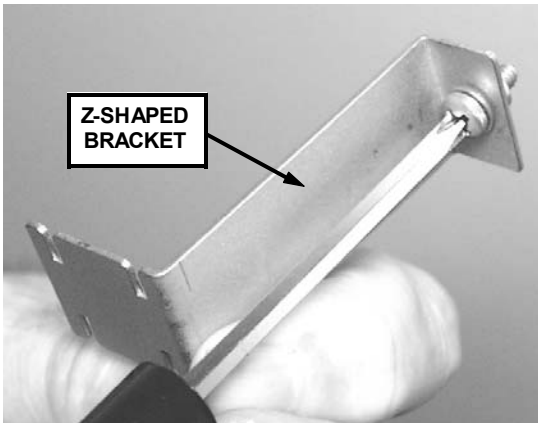
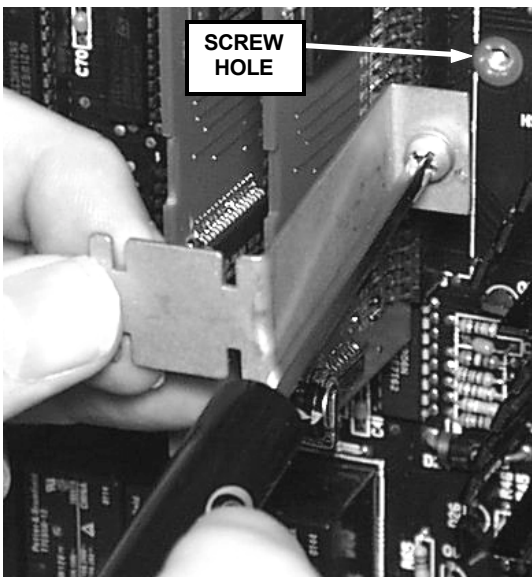

Figure 55b: Helpful Hint. Hold screw in place with screwdriver before inserting screw.
Figure 55c: While holding screw in place with screwdriver, insert screw into controller PCB hole and secure.
6. Install bracket. The Z-shaped memory board bracket is designed to add physical stability to the 2X2 MB memory boards. Secure the Z-shaped bracket to the controller PCB with the Phillips-head screw (inserted into the hole vacated by the 3/4" nylon standoff base in step 2). Helpful Hint: Use the Phillips screwdriver to hold the screw in the bracket hole (see figure 55b). While screw is held in place, insert screw into controller PCB hole and secure (see figure 55c). The notches in the Z-shaped bracket